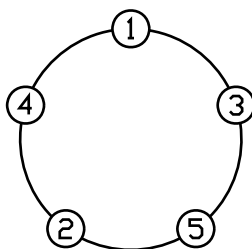

Figure 2-1. Wheel Torque Pattern
2. Tighten bolts/nuts in the sequence shown in Figure 2-1.